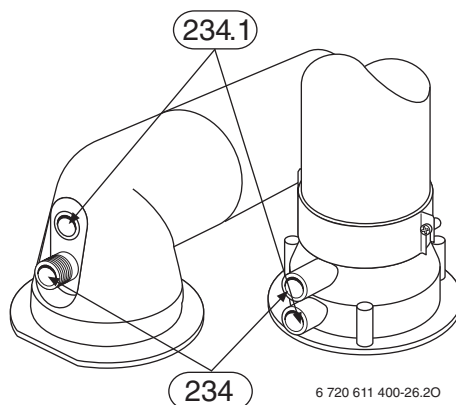

Fig. 41
- ▶ Switch on the appliance at the master switch (I).
- ▶ Unscrew sealing plug from flue gas testing point (234). Refer to fig. 41.